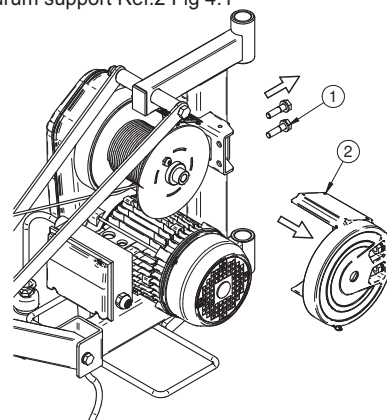

Fig. 4.1
1) remove the drum by unscrewing the 2 screws Ref.1 Fig.4.1 and removing the drum support Ref.2 Fig.4.1